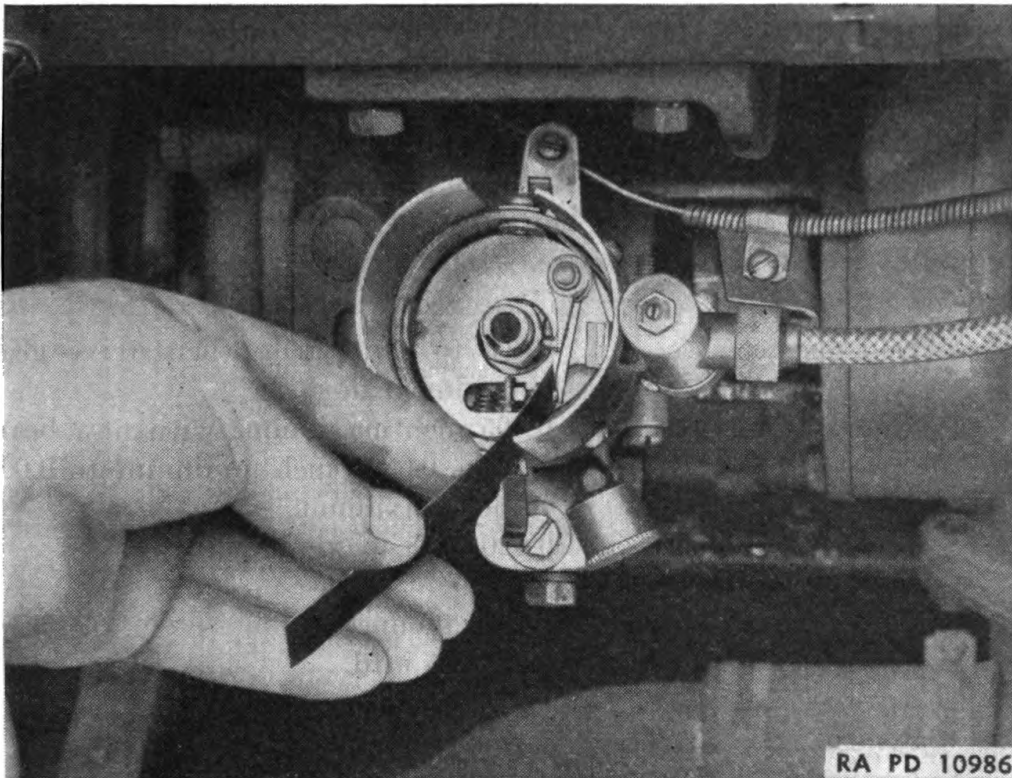

FIGURE 62.—Checking distributor point gap.
(3) *Breaker point gap adjustment.*—If engine does not run properly, check breaker point gap when points are separated fully by cam as shown in figure 62. If gap is not correct (see (7) below), make adjustments as follows: